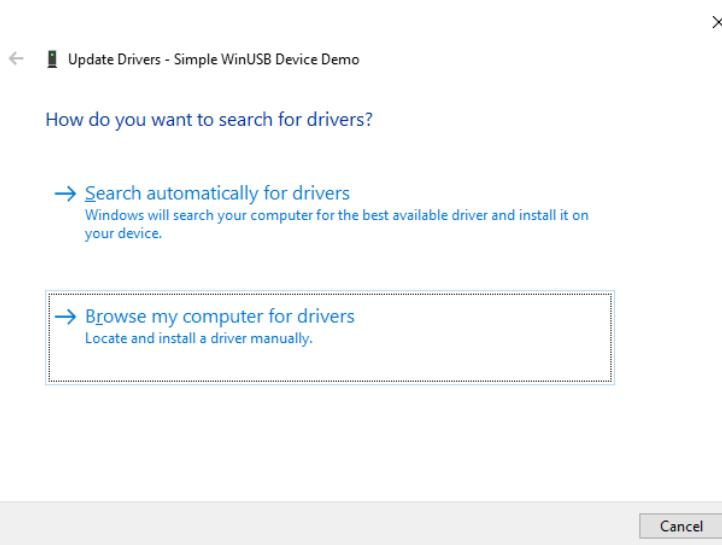

Fig. 10.10: "Update Drivers" window.
4. Select "Browse my computer for drivers" (see Fig. 10.10).